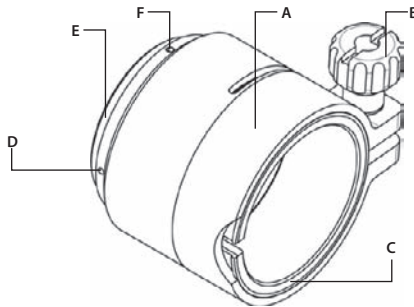

FIGURE 3-10. SCOPE MOUNTING SYSTEM
- Loosen the nuts (A, Figure 3-10); install the extension mount (C) onto the Weaver rail of the bridge (D). Retighten the nuts (A) with a screwdriver.
- Install the Apollo (B) onto the Weaver rail, underneath the extension mount, as shown in Part 3.1.3.
Install the Apollo on the lens of a day scope as follows (refer to Figure 3-10):
3. Using a screwdriver, remove the both M2×2.5 screws (F, see Figure 3-10) and then unscrew the ring (E).
To loosen the ring (E, Figure 3-10), only use its two auxiliary non-threaded holes (D), avoiding the use of the threaded ones.
4. Using a turning machine, cut the inside face of the ring (E, Figure 3-10). The value of cutting (in millimeters) is equal to the value of turning angle (in angular degrees) divided by 360°.
5. Screw the ring (E) into the SMS's body with its cut end directed inwards and tighten it.
6. After applying a small amount of thread lock to the threads, affix the ring (E) with the two M2×2.5 screws (F).